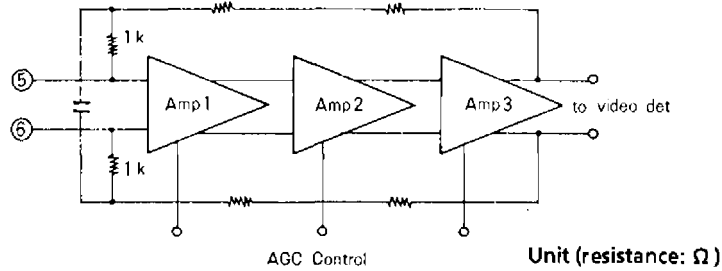

Fig. 1
As shown in Fig.1, the IF amp consists of three amplifiers directly connected with balanced input. Amps 1, 2 and 3, and the gain are controlled by the AGC.
- a. Connect a digital voltmeter to pin 20 (APC filter pin) (Fig.1).